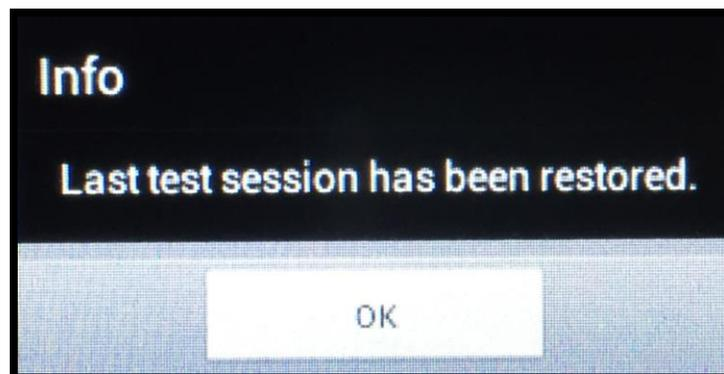

Figure 18
- Once the Software has completely started the following screens will be displayed (Figure 18 & 19). In order to advance press the **OK** button.